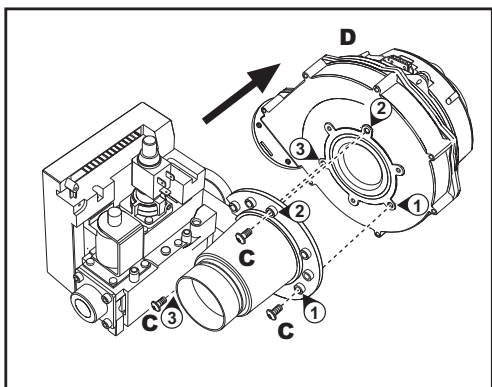

fig. 31 - model ENERGY TOP W 125
- Undo the screws "C" and remove the fan "D" (fig. 31 - only model ENERGY TOP W 125)